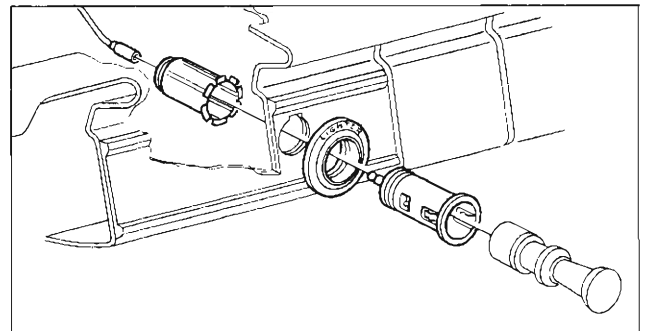

Fig. 21—Cigarette Lighter Assembly (Chevrolet Shown)
**CIGARETTE LIGHTER REPLACEMENT (FIG. 21)**